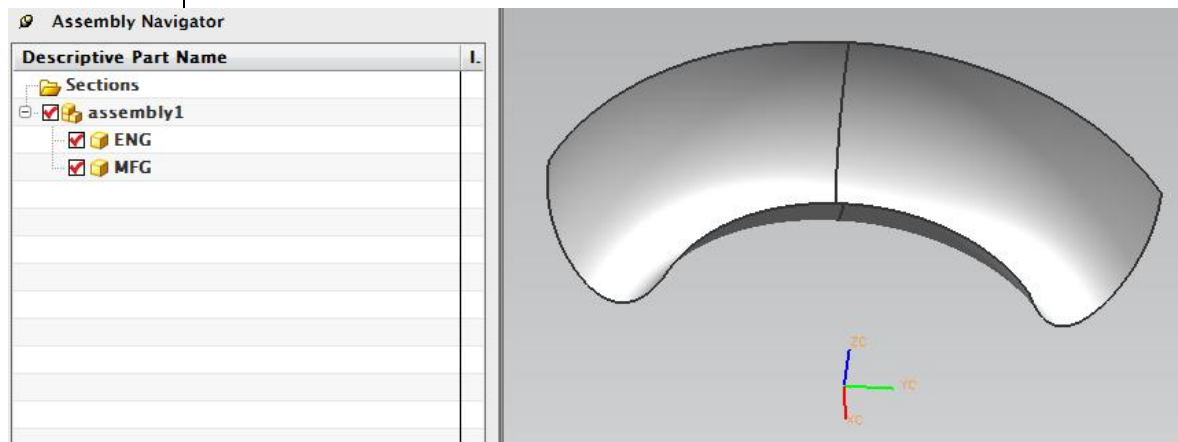

Figure 13–4
7. The model displays as shown in Figure 13–4.